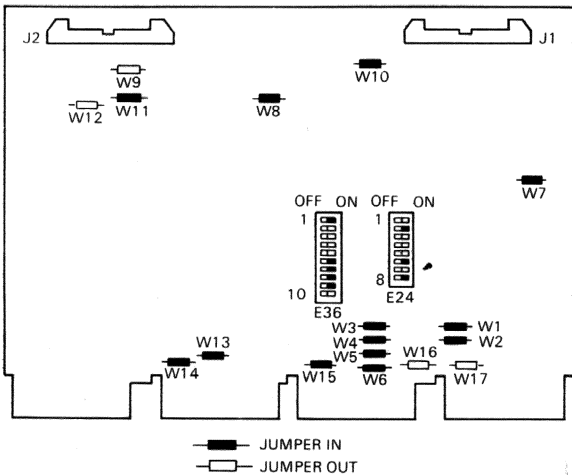

Figure 15 Jumper and Switch Locations
4. Check new PCB for jumper and switch position (see Figure 15)